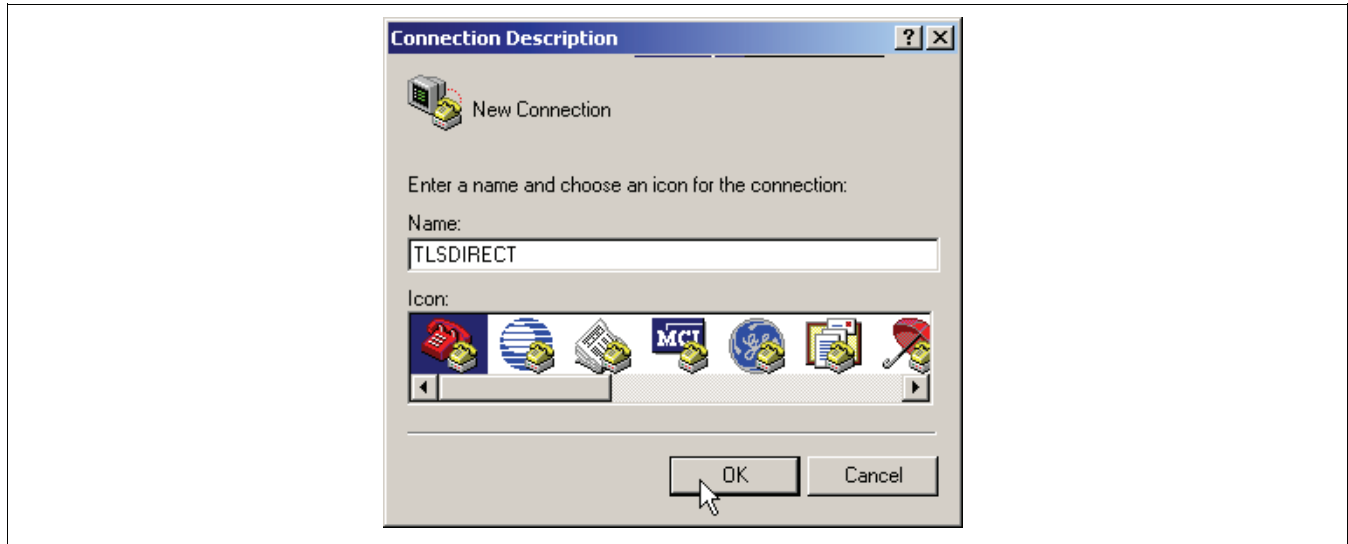

Figure 9. Connection Description window
2. After opening the terminal software program, ignore (cancel) any modem/dialing related request windows since you will be directly connecting to the console via serial communications. When the Connection Description window appears (Figure 9), enter a connection name, e.g., TLSDIRECT, and click the OK button.